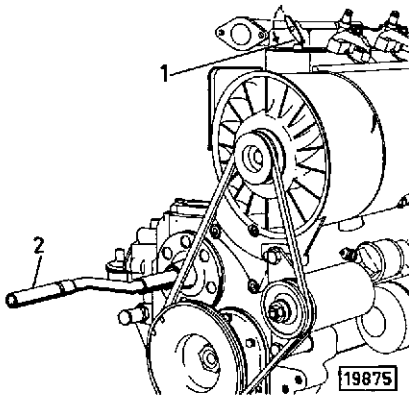

Fig. 9
4. Move decompression lever 1 (Fig. 9) up to stop position in the arrowed direction.
5. Now turn starting handle 2 (Fig. 9) briskly until after about six turns the decompression is shut off automatically and the engine starts firing.